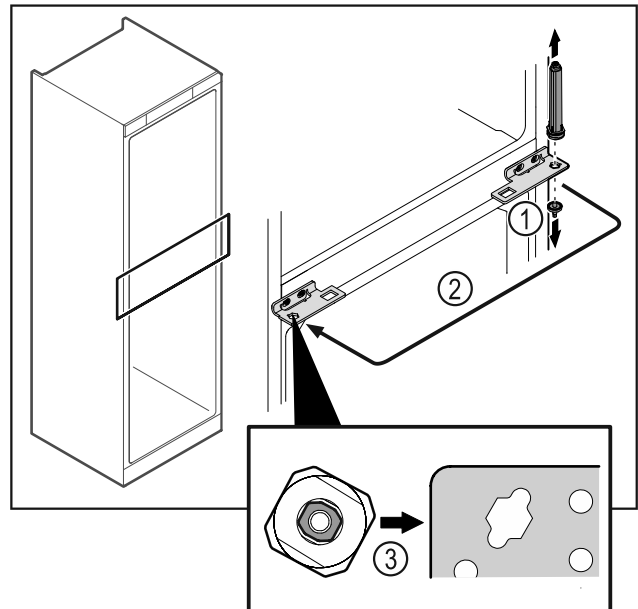

Fig. 39
- Unscrew the hinge pin Fig. 39 (1).
- Move the door closing system Fig. 39 (2).
- When inserting, make sure that the door closing system Fig. 39 (3) is correctly aligned.